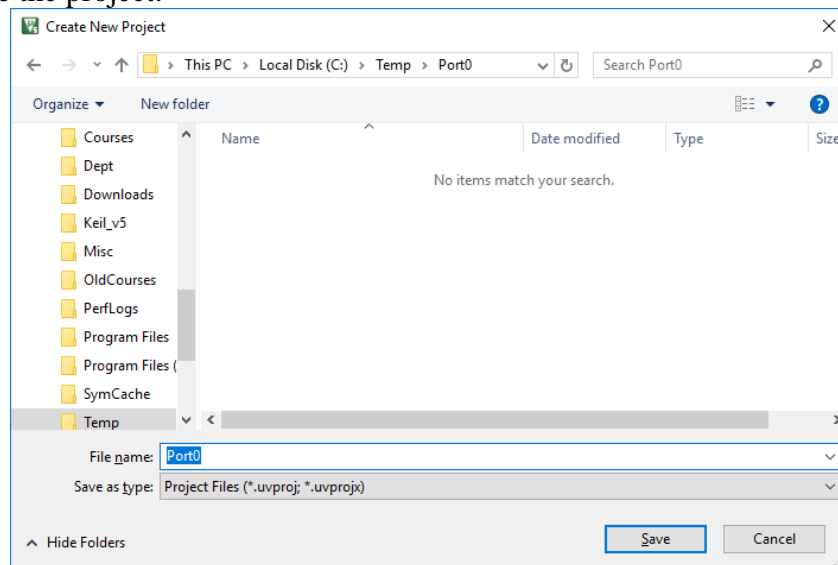

Figure 2
2. Create a new project by choosing *Project*→*NewProject* . Use the menu buttons to choose a directory to store your project. (C:\temp is OK but it's best to create a new folder for each project.) Choose a project name of *Port0* as shown in Figure 2. Click on *Save* to save the project.